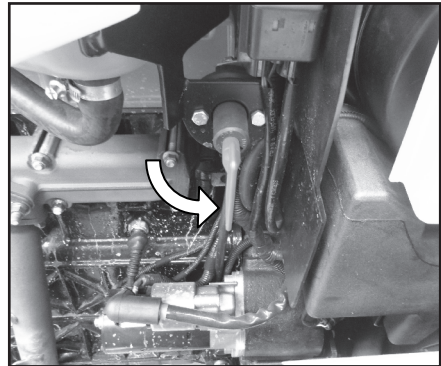

Fig. 5.14
- The switch is set to the "OFF" position by turning it 1/4 of a turn in the anti-clockwise direction: electrical system not powered (Fig. 5.14);